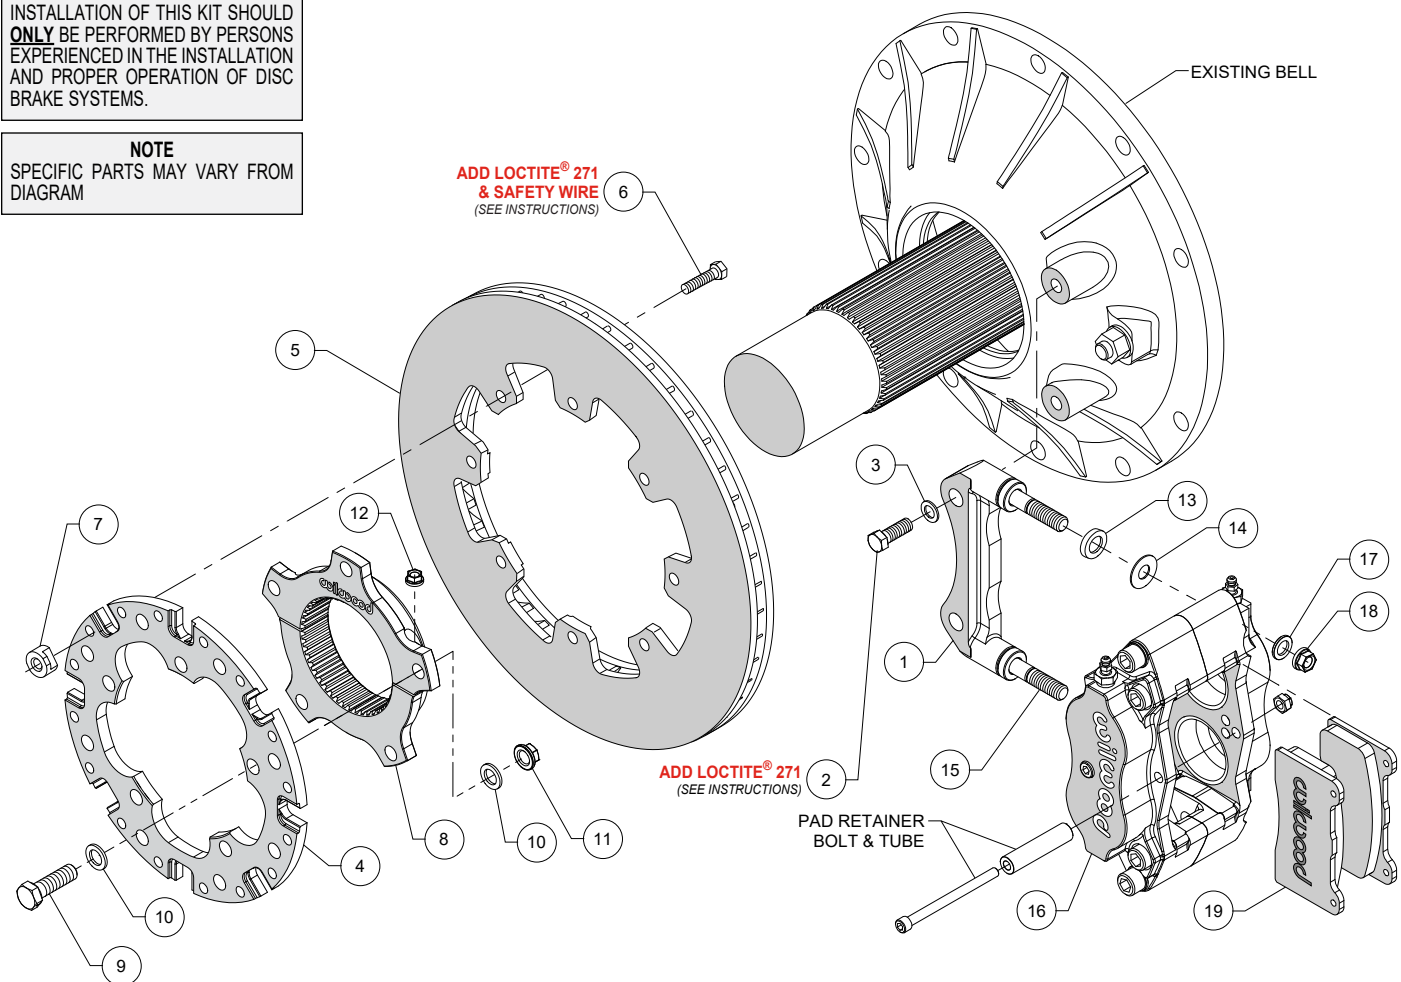

Figure 1. Typical Installation Configuration
NOTE: Numbers in parenthesis refer to the parts list and Figure 1 on the preceding pages.
- Orient the caliper mount bracket (1) as shown in Figure 1 and install using bolts (2) and washers (3). Temporarily tighten the mounting bolts. **NOTE:** The bracket must fit squarely against the mount bosses on the bell. Inspect for interference from casting irregularities, machining ridges, burrs, etc. Remove the bracket mounting bolts one at a time, apply red *Loctite*® 271 to the threads, and torque to 60 ft-lb.
- Orient the rotor adapter (4) and the rotor (5), as shown in Figure 1, and attach using bolts (6) and t-nuts (7), Figure 1. Apply red *Loctite*® 271 to the bolt threads before installing. Finger tighten. After all t-nuts have been installed, torque bolts to 220 in-lbs using a criss-cross pattern. Please refer to Wilwood's data sheet DS-669 (available at www.wilwood.com/Pdf/DataSheets/ds669.pdf) for complete t-nut bolt kit installation instructions.
- Orient the axle clamp assembly (8) as shown in Figure 1 and install onto the rotor adapter (4) using bolts (9), washers (10), and lock nuts (11). Tighten lock nuts part way while still allowing clamp-to-rotor movement. The lock nuts will be final tightened later, after aligning the rotor. **NOTE:** *The axle clamp should be positioned inside of the rotor as shown in Figure 1, not offset, or outside of the rotor adapter.*
- Initially place one spacer (13) and one .030" thick shim (14) on each stud (15) as shown in Figure 1. Mount the caliper (16) onto the bracket (1) using washers (17) and lock nuts (18), Figure 1. Temporarily tighten the lock nuts (18) and view the rotor through the top opening of the caliper. The rotor should be centered in the caliper. If not, slide the rotor/adapter assembly on the axle until the rotor is centered in the caliper. Tighten the clamp nuts (12) first, locking the clamp to the axle. Torque rotor adapter lock nuts (11) to 30 ft-lb.
- Remove the caliper center bridge pad retainer bolt, nut, and tube from the caliper. Insert the brake pads (19) into the caliper, with the friction material facing the rotor. Check that the top of the brake pad is flush with the outside diameter of the rotor. If not, adjust by adding or subtracting shims (14) between the caliper and the bracket. After the caliper pad height is set, torque the caliper lock nuts (18) to 30 ft-lb. Secure the brake pads in place with the center bridge pad retainer tube, bolt, and locknut. The locknut should be snug without play in the bolt or tube. Be cautious not to over tighten.